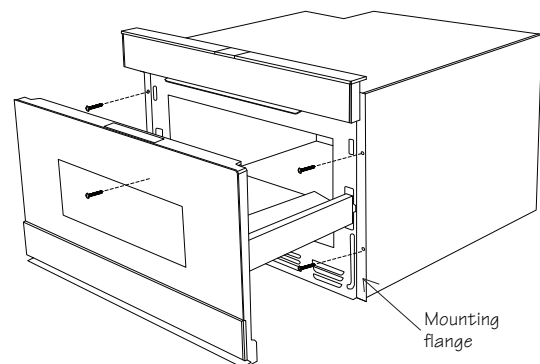

Figure 10
3. Slide the drawer all the way until the mounting flange is flush with the face of the cabinet. See Figure 10.
4. Open the drawer. Using the 4 holes on the drawer as a template, pre drill the cabinet using a ¹/₁₆" bit. See Figure 10.